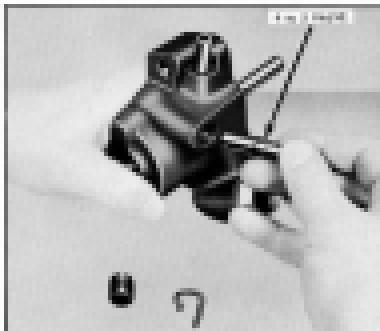

Fig. 420. Removing 4 to 3 Valve.
9. Remove 4 to 3 valve from front servo body. (Fig. 420)